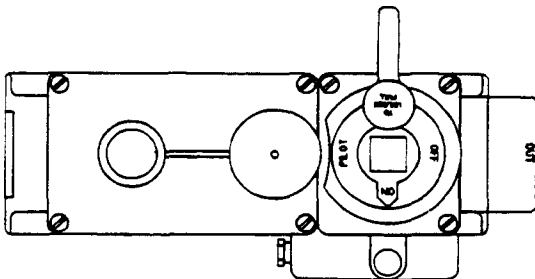

Figure 2
- C. Turn safety valve handle to PILOT, depress button, light pilot and hold for 45 seconds or until pilot remains lit. Refer to Figure 2.